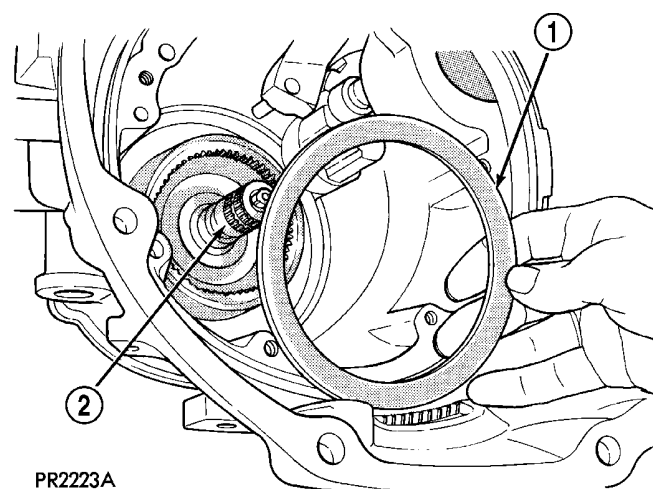

Fig. 44 No. 11 Thrust Washer
(43) Remove and inspect #11 thrust washer (Fig. 44).